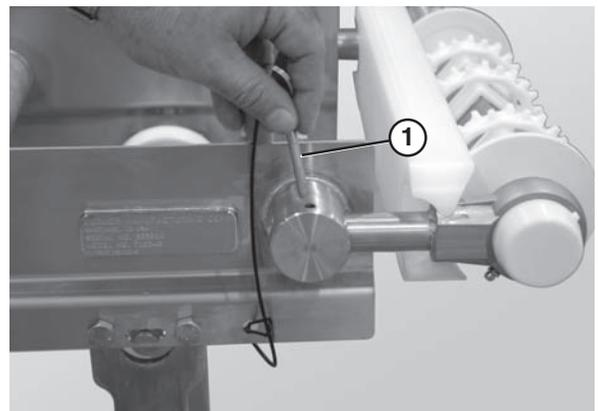

Figure 68
5. Remove the pull pin (**Figure 68, item 1**).
- Remove the pull pins (**Figure 68, item 1**).